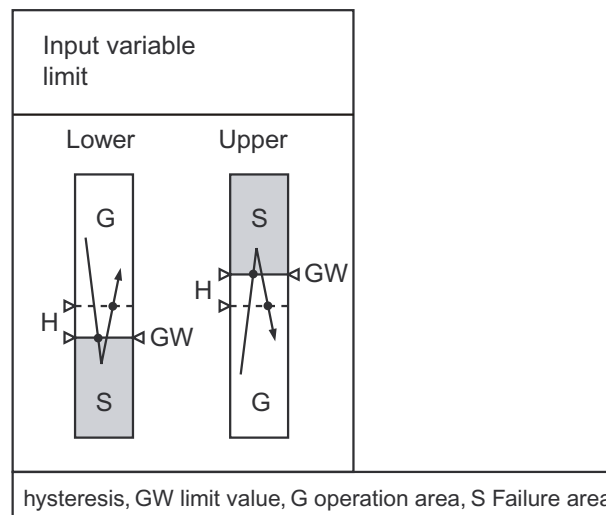

Fig. 4. Switching function according to limit monitored.
- Lower limit value of the measured variable (see Fig. 4, left)
- Upper limit value of the measured variable (see Fig. 4, left)